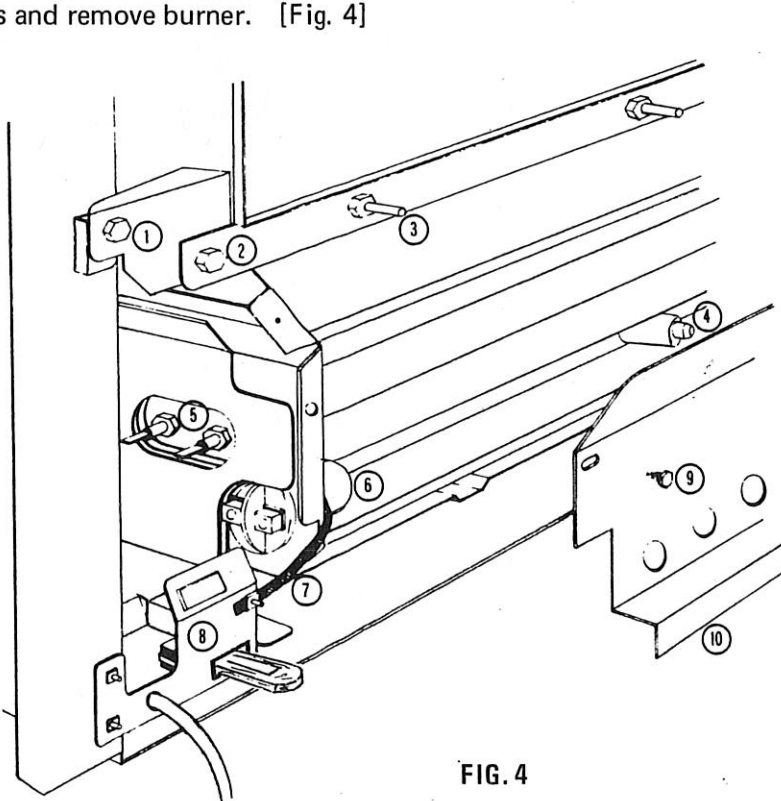

FIG. 4
4. Undo two screws and remove burner heat shield. [Fig. 4]
5. Loosen clamp screw and slide thermal switch out of clamp and clear of burner. [Fig. 4]
7. Undo nut and remove earth braid. [Fig. 4]
9. Remove burner fixing bolts and remove burner. [Fig. 4]
- ① Heat exchanger assembly fixing bolt (2 off)
- ② Burner assembly fixing bolt (2 off)
- ③ Door assembly fixing stud (6 off)
- ④ Oil input union
- ⑤ Ignition element
- ⑥ Thermal ('Otter') switch
- ⑦ Monel earth braid — to burner assembly
- ⑧ Terminal bracket assembly
- ⑨ Burner heat shield fixing screw (2 off)
- ⑩ Burner heat shield